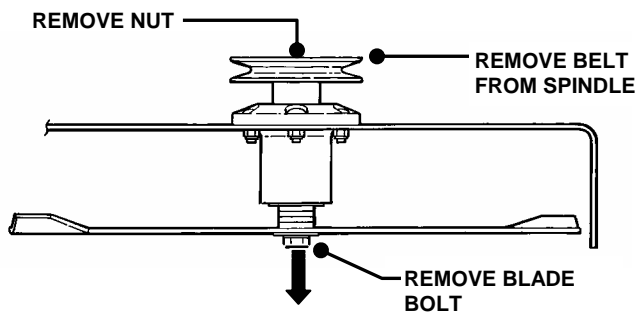

FIGURE 7.7
1. Remove belt. Loosen blade nut and remove. Allow blade bolt, washer, blade and four spacers to drop down out of the spindle housing. See Figure 7.7.